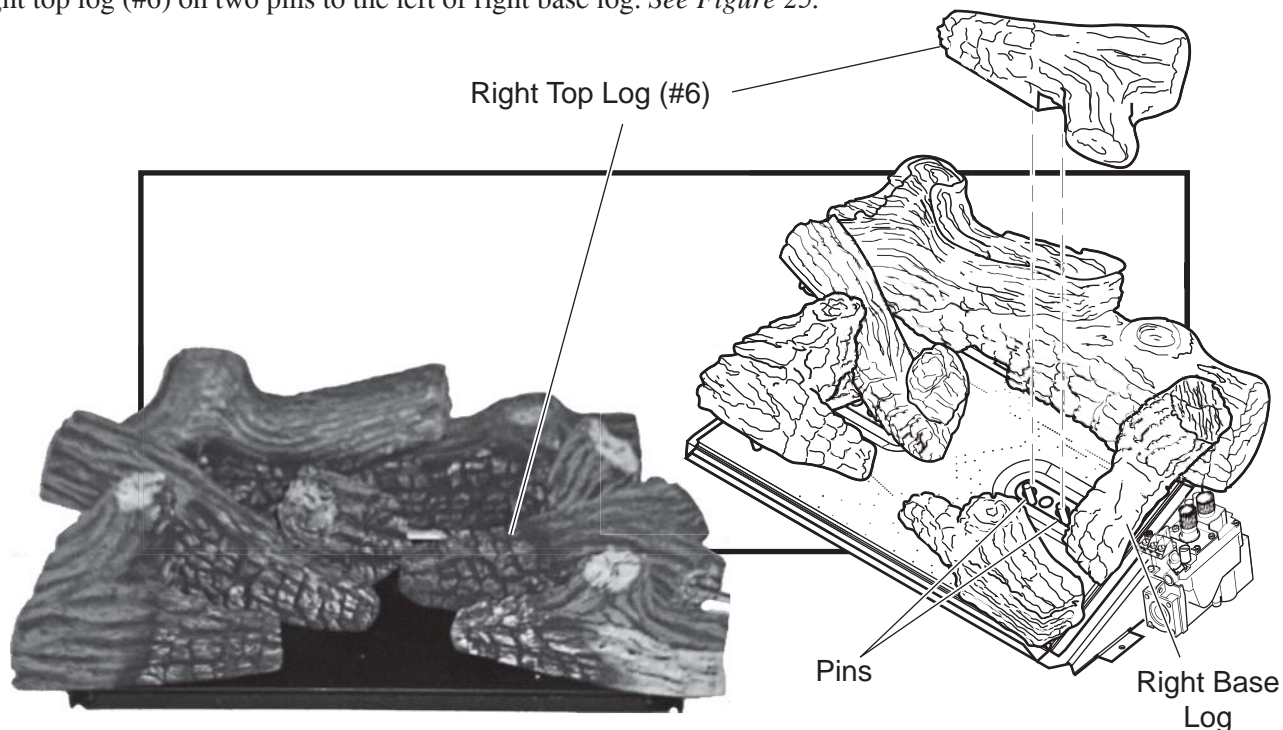

Figure 25 - Installing Right Top Log (#6)
6. Place right top log (#6) on two pins to the left of right base log. *See Figure 25.*